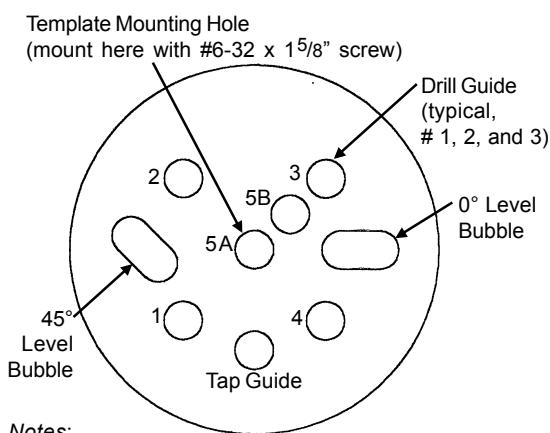

Figure 3-9. Drill and Tap Template
4. Drill the L-Cell mounting holes with the #36 drill bit, using the template guides (Fig. 3-9) as follows: